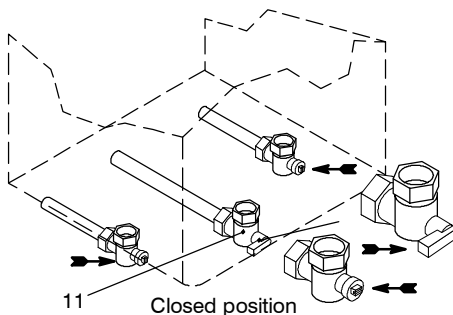

Fig. 2.9
- 2 Shut off the gas supply cock 11 and the valves for the water circuits fitted under the boiler (Fig. 2.9).
shut off the valves positioned under the boiler (Fig. 2.9 on page 6) and call an Authorised Service Centre Engineer.